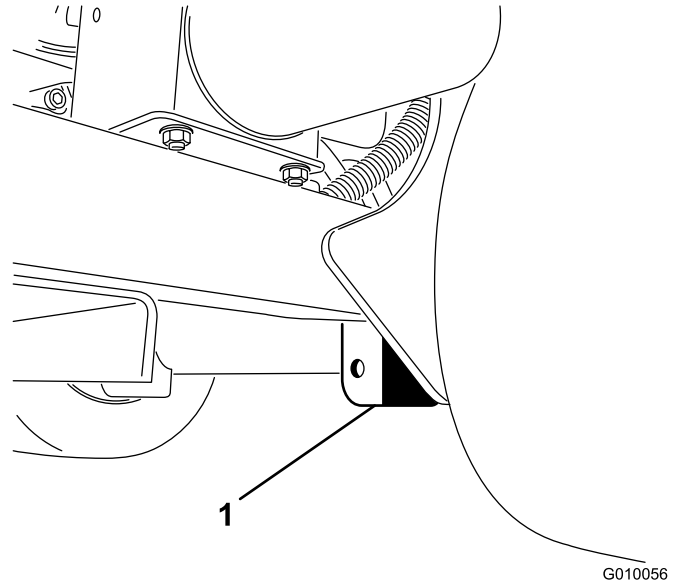

Figure 41
2. Place the jack securely under the frame plate just inside of the rear wheel (Figure 41).